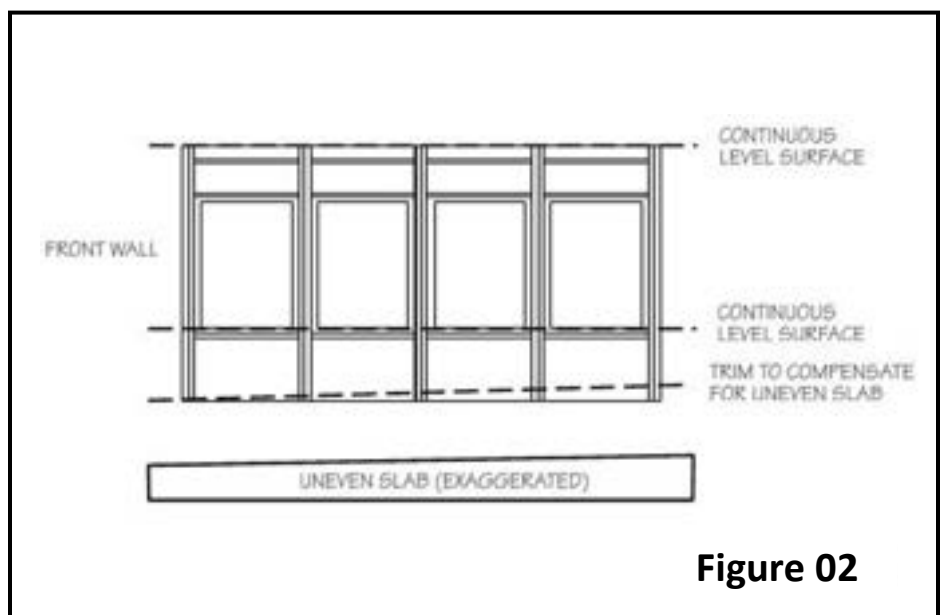

Figure 02
A. On concrete foundations and deck applications, the foundation may not be level. Place a 4' level on the inside edge of your front wall bottom track to determine if the foundation is level. If there is a slight slope, you may have enough solid material on the kick plate to trim, compensating for the slope (**Figure 02**). C-Thru does not recommend this as a norm for sloppy foundation work as this could create problems as the installation continues. If the slope is not uniform, then each module must be cut separately, adding the adjustment for each module cut size to the next module. Not all modules are the same width; therefore, each cut must be made according to the size of the individual module.